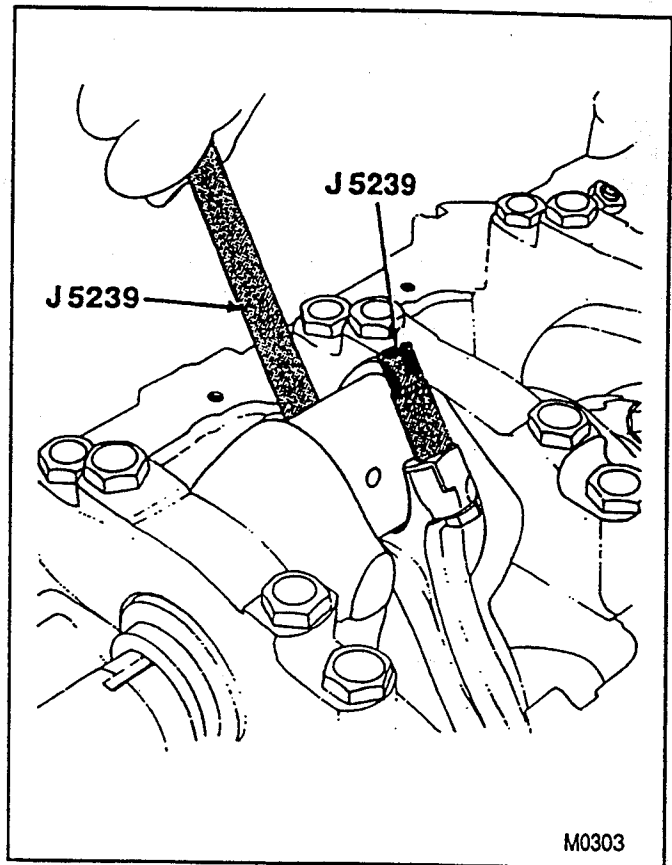

Figure 35—Removing the Piston and Connecting Rod
- A. Push on the guide rod (item A, figure 35) to push the piston and connecting rod out.